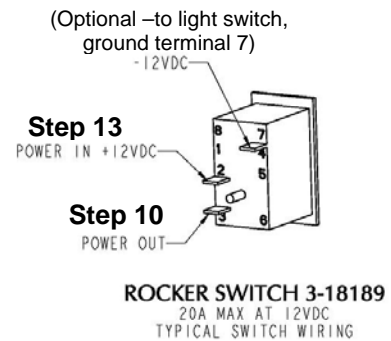

Figure 5
10. Run switch end of wire harness through switch knockout. Connect switch end of wire harness to rocker switch terminal 3. Refer to labels on harness **(Figure 5)** for correct wire connections.
13. Connect opposite end of wire through switch knockout hole and connect to rocker switch terminal 2 (**Figure 5**).